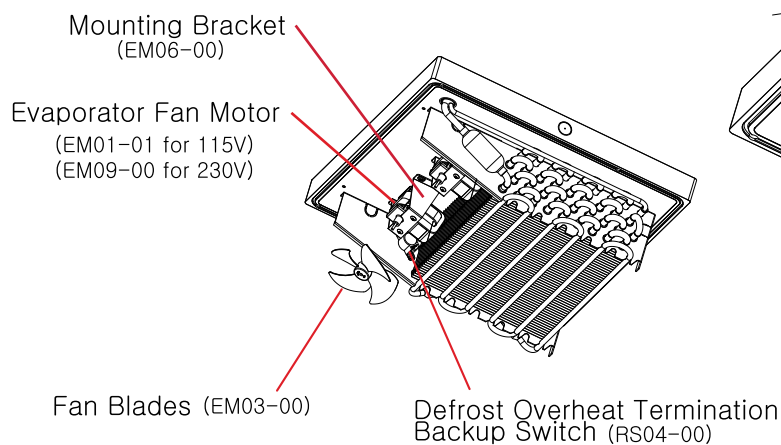

Fig 8-13
3. Pull out the fan blades from the motor. (Fig 8-13)